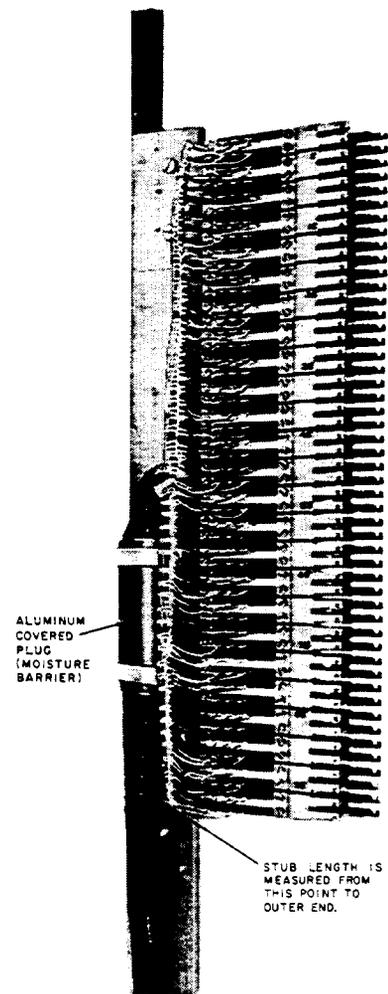

Figure 26—301-Type Connector
6.10 The 301-type connector (Figure 26) terminates outside plant cables not requiring protection on double-sided protector frames and conventional distributing frames. The 301-type connector is essentially a 444C-type jack equipped with a 100-pair 24-gauge stub. These connectors do not accept protector devices and were intended as outside plant termination apparatus only. The connector is rated DA (Discontinued Availability) and the recommended replacements are 303-, 305-, 309-, 310, 310M- or 311-type connectors. For the connector codes and more detailed information, refer to AT&T 201-206-101.